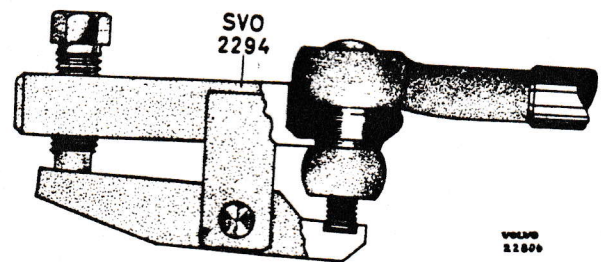

Fig. 15. Removing ball joint
5. Remove the split pin and nut for the steering rod ball joint. Screw back the tensioning screw on tool SVO 2294 and place the tool on the ball joint as shown in Fig. 15. Press in the tool properly and ensure that the thread of the ball joint enters the countersink in the tool. Screw in the tensioning screw until the ball joint releases.